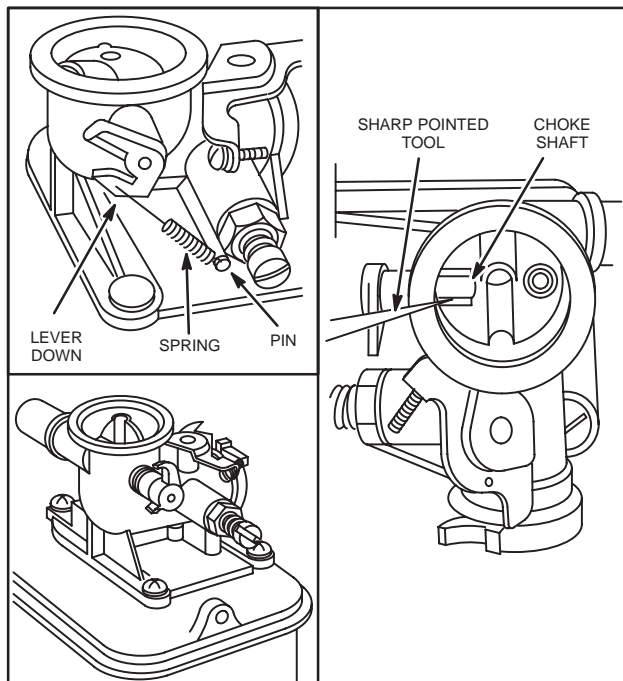

Fig. 232 - CHOKE SHAFT AND PLATE - CHOKE-A-MATIC®
1. To remove choke parts, first disconnect choke return spring (when used), Fig. 232.